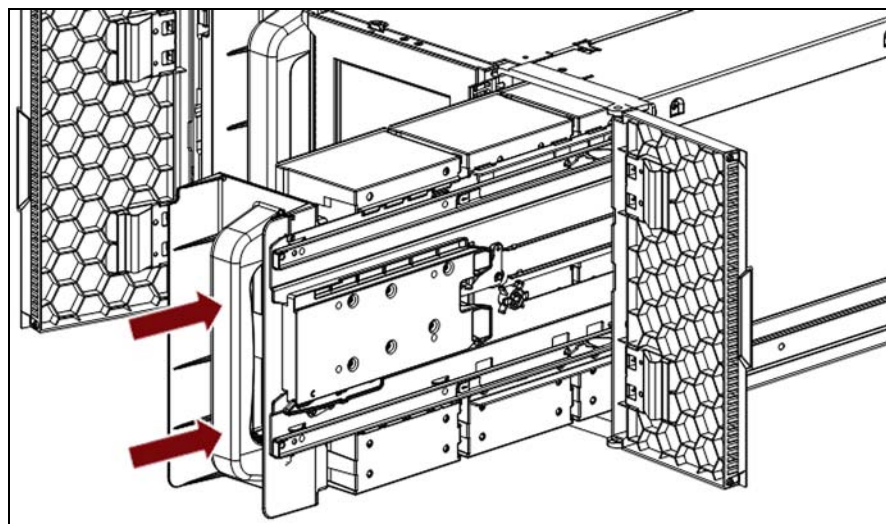

Figure 15 Install a magazine into the library.
4. Gently push the EE port back into the library (see Figure 15 on page 47) until it locks in place.